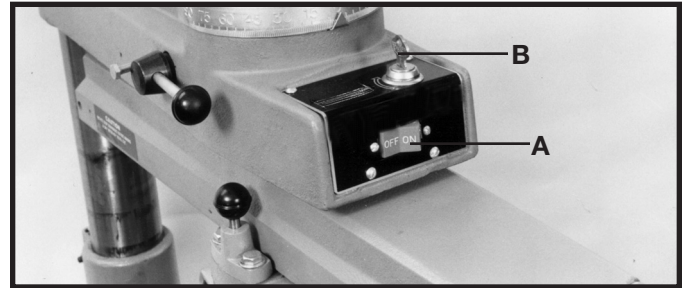

Fig. 35
The On/Off Switch (A) Fig. 35, is conveniently placed at eye level on the front of the overarm. **IMPORTANT:** When the tool is not in use, the switch should be locked in the “OFF” position to prevent unauthorized use. This is achieved by pressing in and holding the switch (A) down in the “OFF” position while turning key (B) to the lock position; then remove key (B).